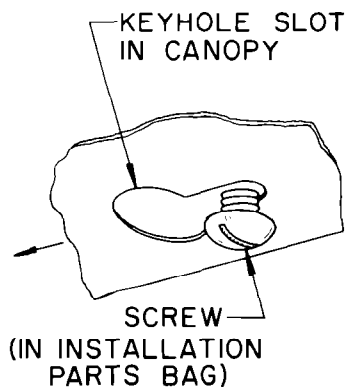

FIG. 3
7. Remove the hood and start all four screws in the center of the narrow neck of the keyhole slot marked on the cabinet bottom. See Figure 3.